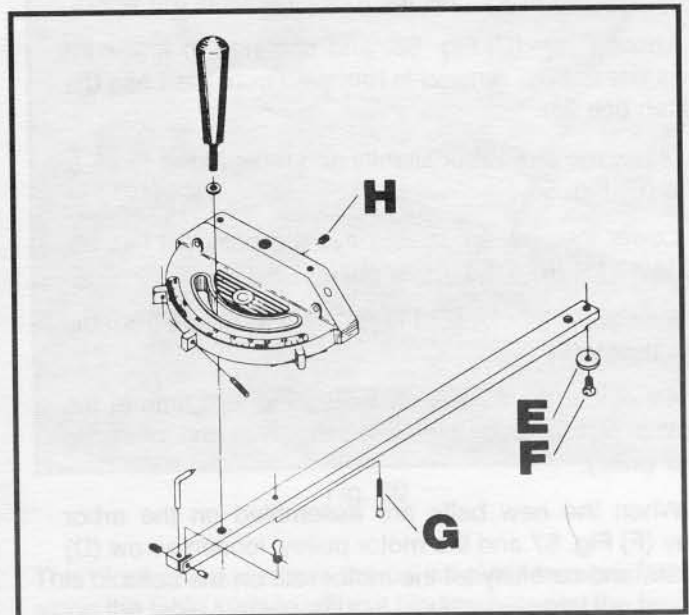

Fig. 54
The miter gage is equipped with a special washer (E) Fig. 54, and flat head screw (F), which are to be assembled to the end of the miter gage bar.
The head of the miter gage pivots on a special tapered screw (G) that fastens the head to the miter gage bar. If the miter gage head does not pivot freely, or pivots too freely, it can be adjusted by loosening set screw (H) Fig. 54, and turning the screw (G) in or out. Be certain to tighten screw (H) after adjustment is made.